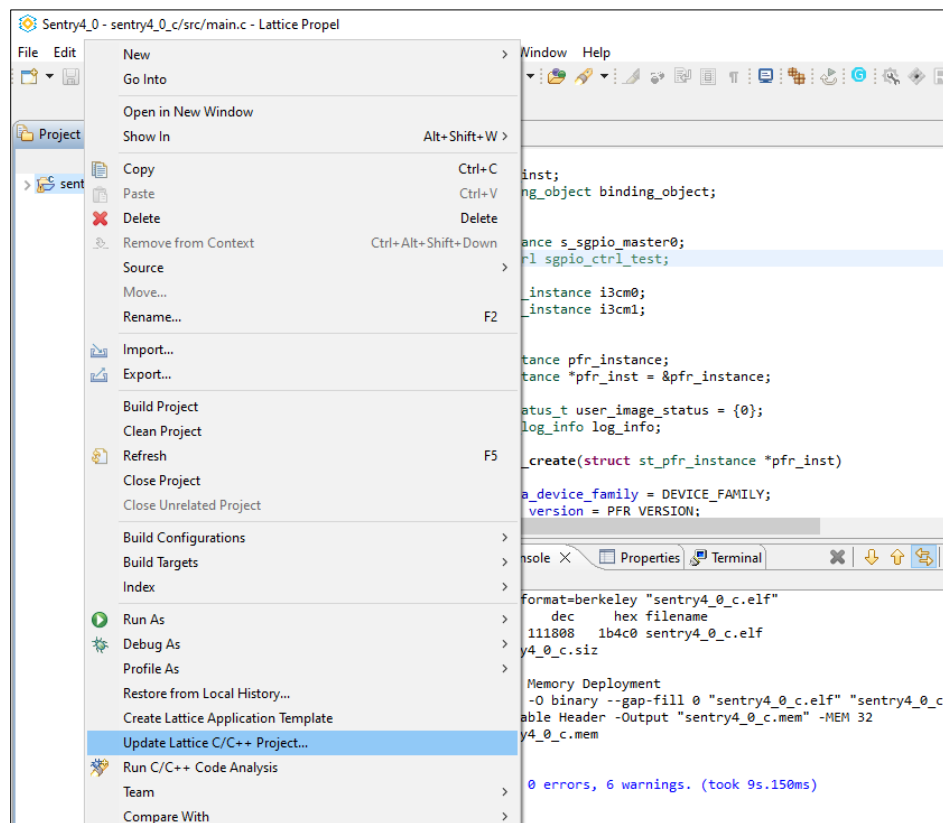

Figure 6.1. Update Lattice C Project
1. In the **Project Explorer** view of Lattice Propel SDK, right-click on the C project and choose **Update Lattice C/C++ Project...** (Figure 6.1).